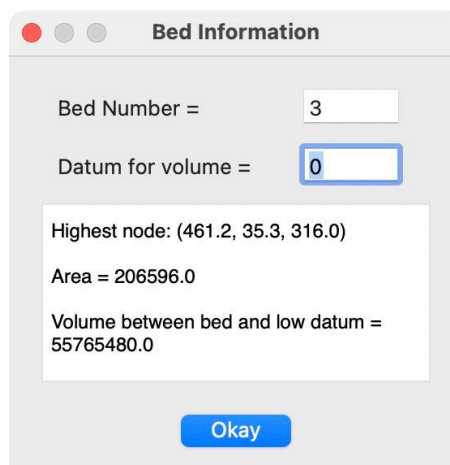

Figure 17. The *Bed Info* panel.
2. Move up or down to the bed you want to select using the *Plot -> Beds -> Up* or *Down* menus, or keyboard combinations ⌘↑ and ⌘↓, respectively. For example select the top bed (Figure 17 left).
The Bed Info panel (*Model -> Get Bed/Surface Info* or keyboard combination  $\uparrow \text{⌘} B$ , Figure 17) reports key parameters of the selected bed, specifically its: (i) lowest node, (ii) highest node, (iii) area, (iv) volume with respect to a datum, and if the strain is computed (v) the bed's maximum stretch, (vi) minimum stretch, and (vii) dilation.